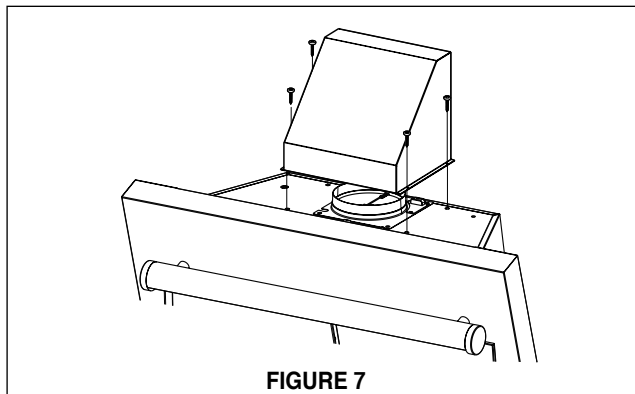

FIGURE 7
1. For rear ducted installations, attach the rear chimney transition to the top of the rangehood (**FIGURE 7**) with the 4 screws provided.
2. Attach the grille cover (H in FIGURE 7) using the cover screws (I in FIGURE 8).